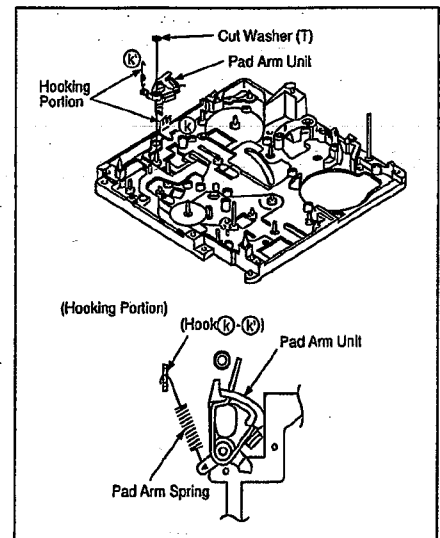
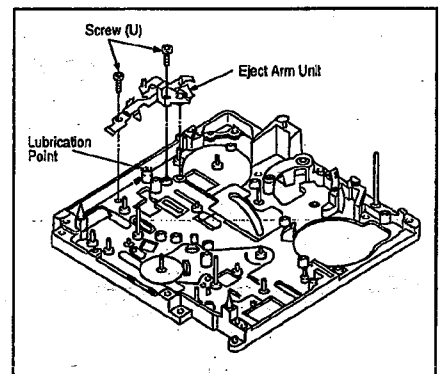

Fig. M28
Fig. M29
15. Pad Arm Fig. M28 Unhook the hooking portion (k) of the Pad Arm Spring.
- (Note of installation) Remove the Cut Washer (T) and Pad Arm Unit.
16. Eject Arm Fig. M29 Unscrew 2 screws (U) and remove the Eject Arm Unit.